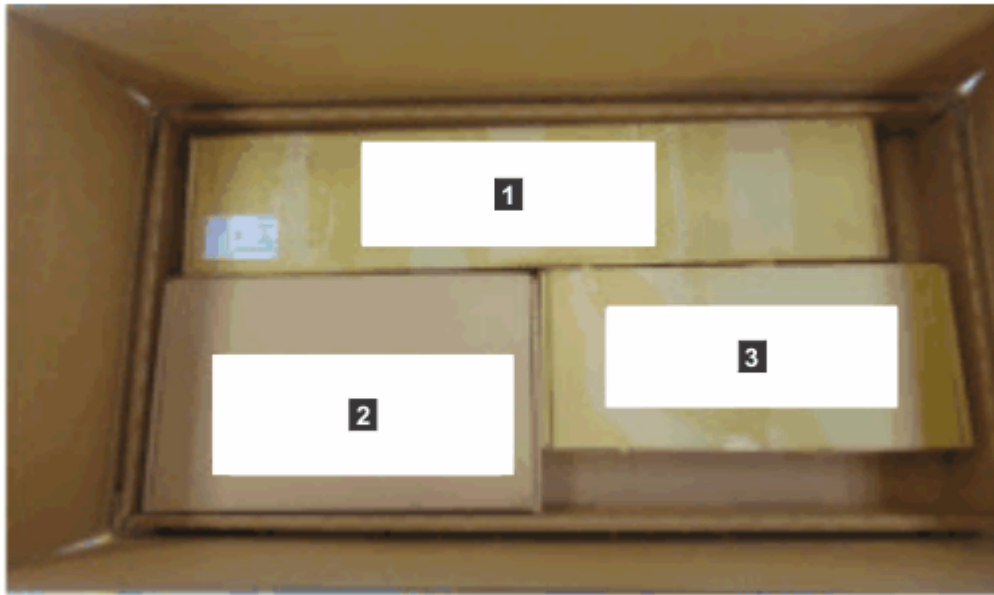

Figure 25. Tray containing expansion enclosure parts
The 2077-92F, 2077-A9F expansion enclosure and most parts are shipped together in one large box. A tray on the top of the enclosure contains the front fascia (1U and 4U pieces), the cable management arm (CMA), and the slide rail kit; you must install these parts. Figure 25 on page 36 shows how the enclosure is packaged for shipment.
6. Remove the support rail kit from the box in which it was shipped (**1**), as shown in Figure 25 on page 36).
17. Remove the cable management arm assembly from its packaging (**2** in Figure 25 on page 36).